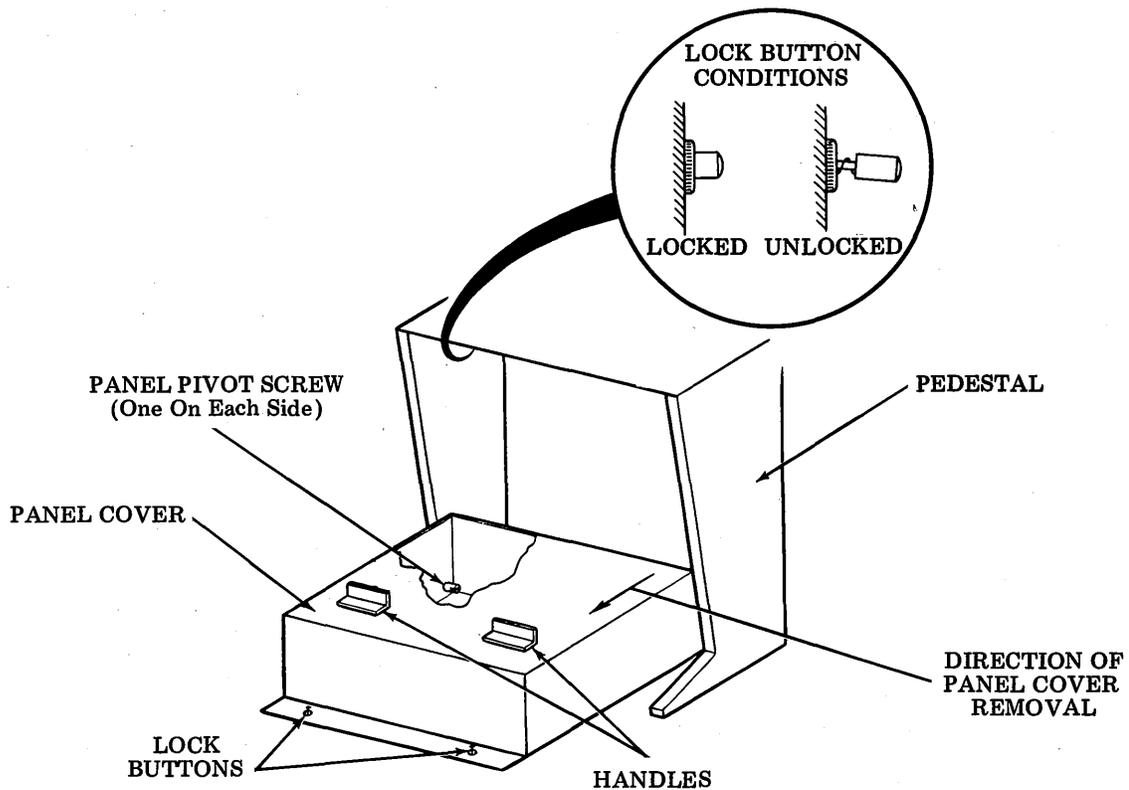

Figure 7 - Front Panel Opened
- (a) Release the panel by pressing the two lock buttons located near the top of the pedestal (Figure 7). Lower the panel and let it rest on the floor.
- (d) Replace the panel cover (Figure 7).
- (f) Raise the front panel to its closed position and lock into place by pressing each lock button. (Locked and unlocked conditions are illustrated in Figure 7.)